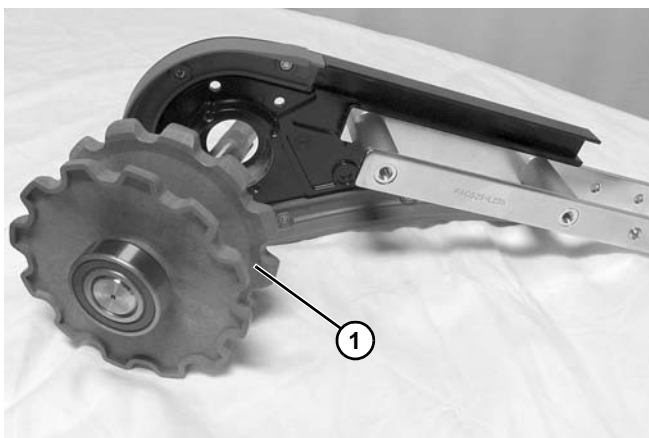

Figure 52
7. Remove spindle shaft assembly (Figure 52, item 1) from idler head plate assembly.